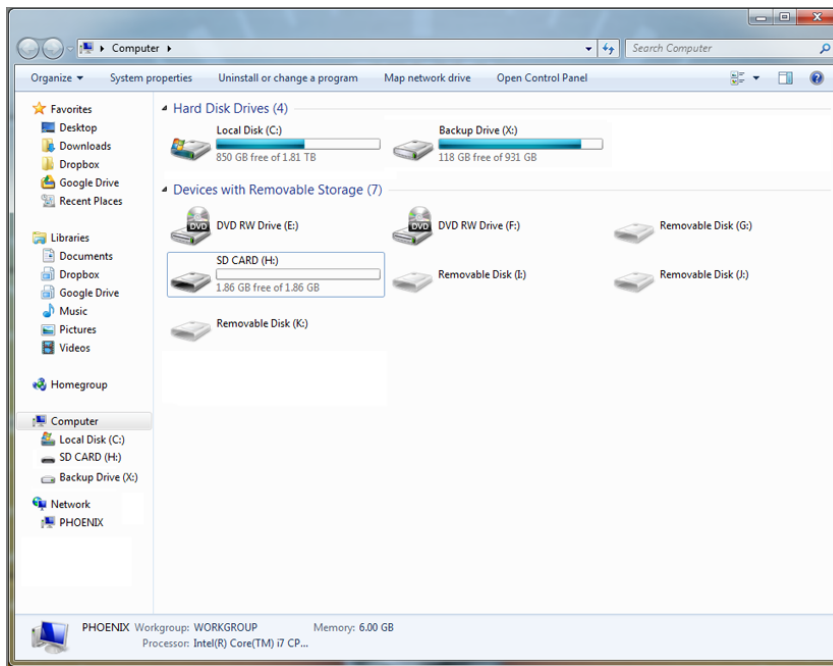

Figure 13-1: SD card shown in My Computer
1. Insert the SD card into your card reader; it should then appear in My Computer (see Figure 13-1).